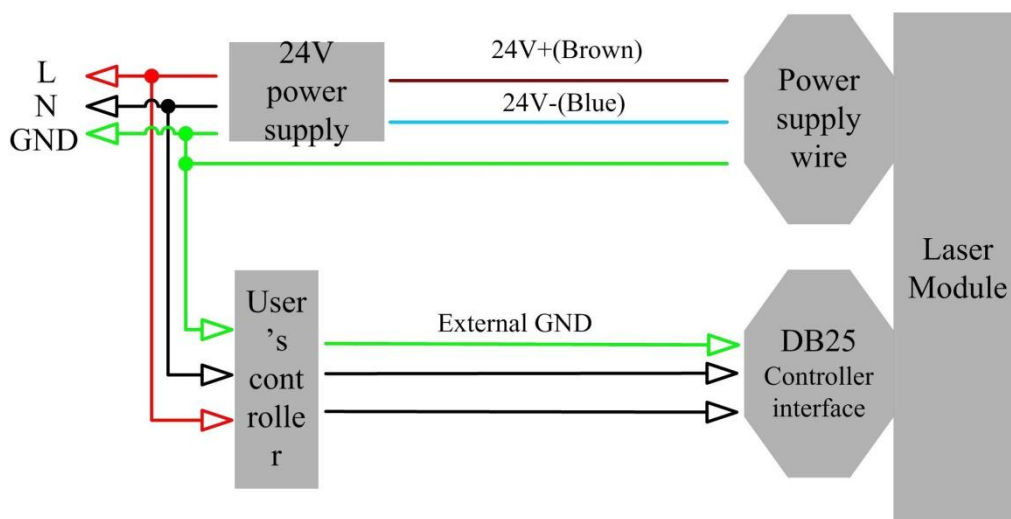

Figure 5 Wiring diagram of recommended electrical connection and power supply
- c) Make sure that the interface of the external controller matches the laser and the control cable is well connected to the laser's interface. The recommended electrical connection is shown in Figure 5.